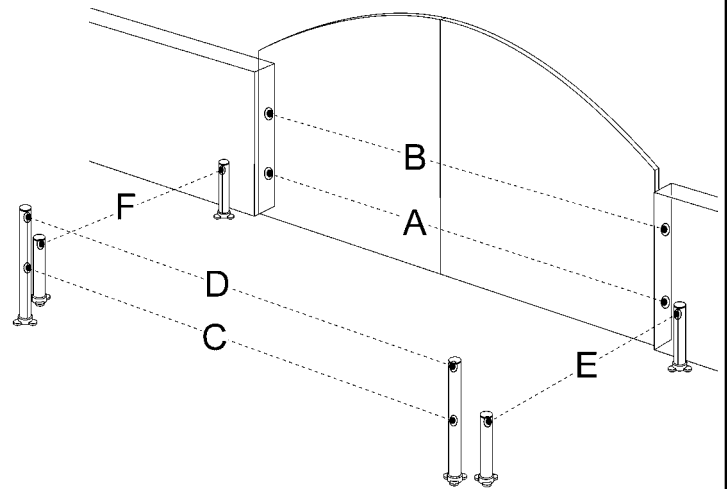
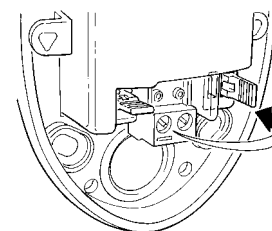

Figure 61
Figure 62
Additional photocells can be installed at any time on top of those supplied with WK2. In an automation system for 2-leaf gates these can be arranged as shown in Figure 61.
- 2 Identify the position where they are installed based on Figure 61 and connect with jumper according to Table 11. The unused jumpers must be stored in their proper compartment for future use (Figure 62).